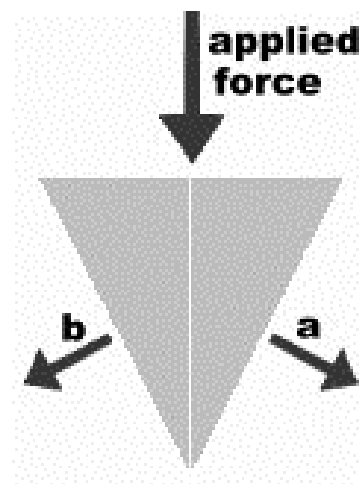

Figure 11: A wedge drives the force apart; the direction of output force is changed from one direction into two (a and b)
- img11_Figure11 © L Kleynhans is licensed under a CC BY \(Attribution\) license